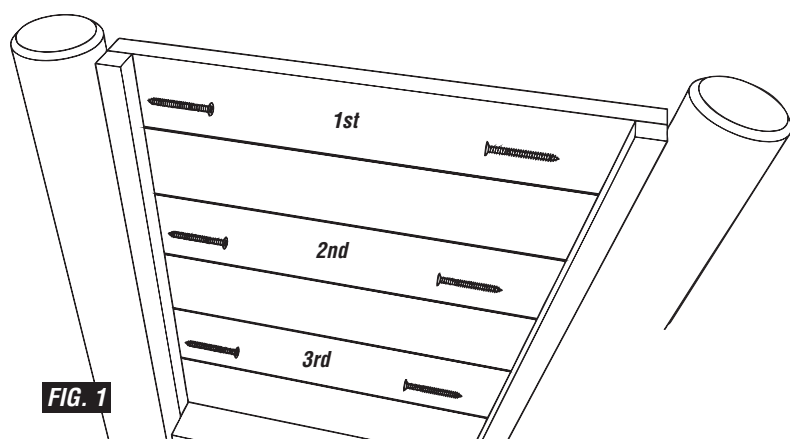

FIG. 1
B) THE PRE-ASSEMBLED PANELS HAVE 43X43 TIMBERS EITHER SIDE - SCREW THROUGH THE SUPPORT AND INTO THE ROUND TIMBER (FIG. 1)